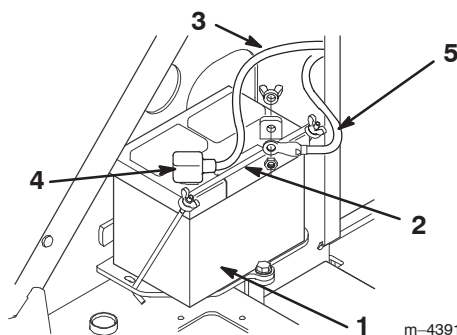

Figure 24
2. Remove the wing nuts and bar securing the battery (Fig. 24).
6. Install and secure the battery into the chassis (Fig. 24).
7. Using the bolt and wing nut supplied with the battery, connect the positive (red) cable to the positive (+) battery post (Fig. 24). Slide the rubber cover over the battery post.
8. Using the bolt and wing nut supplied with the battery, connect the negative (black) cable to the negative (-) battery post (Fig. 24).